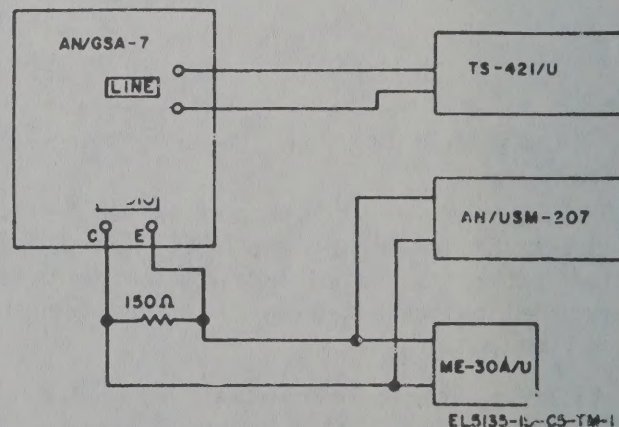

Figure 24.1 Output level test, 1600 cycles.
a. *Output Level—1600 Cycles* (fig. 24.1)